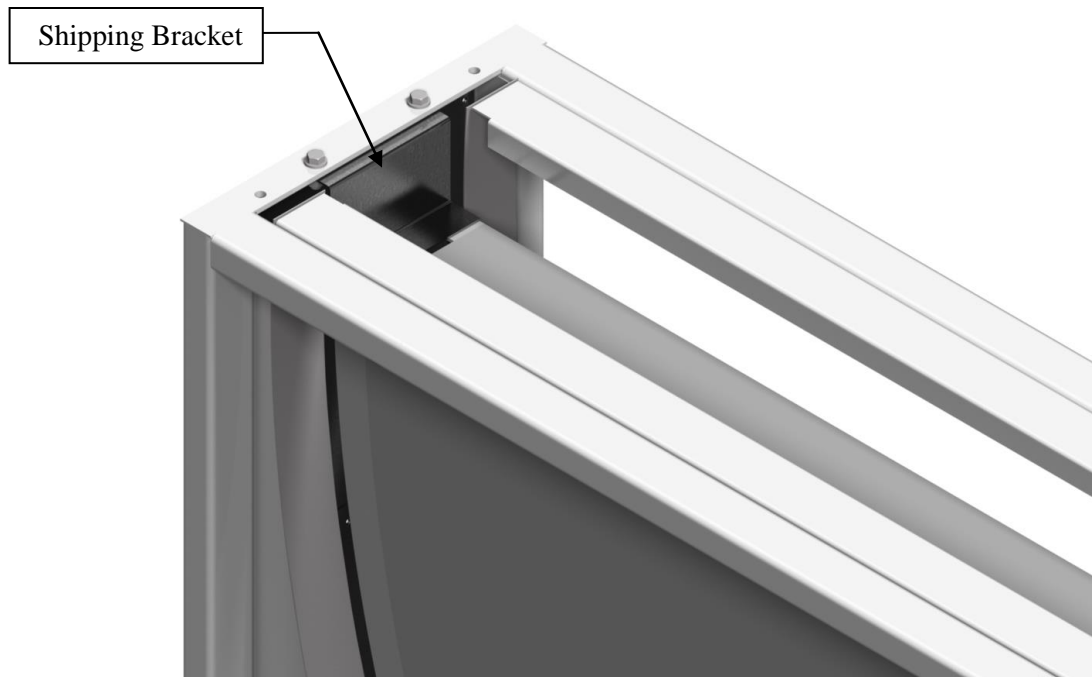

Figure 1
- Once the lower sections of the AHU have been installed, remove the shipping brackets located at either side of the top of the rotor (see Figure 1).